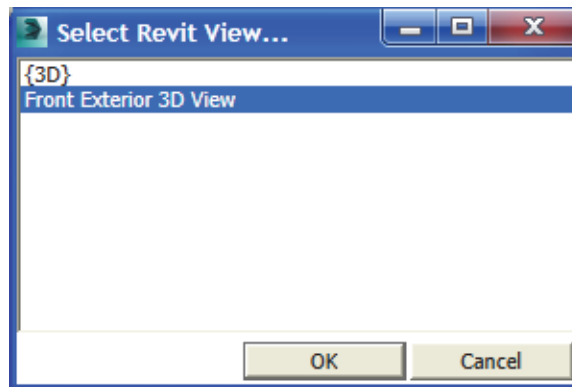

Figure 3–32
- The Link Revit View dialog box opens indicating the progress of the file as it is loading. Once loaded, the Select Revit View dialog box opens as shown in Figure 3–32.